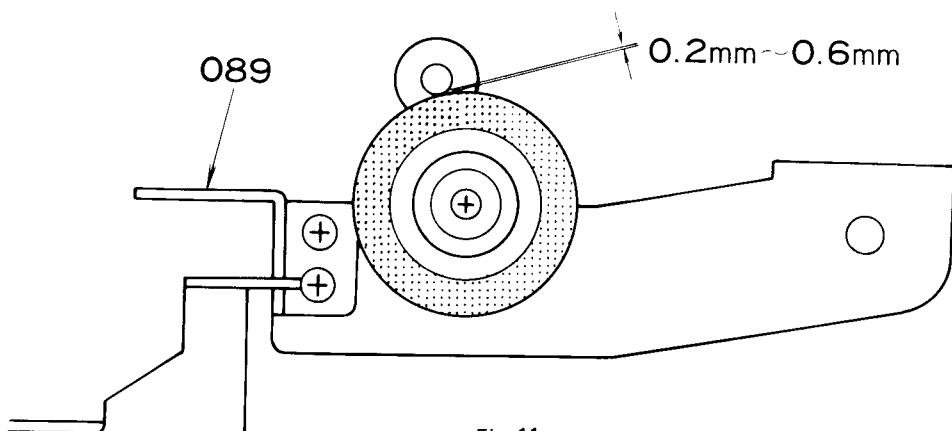

Fig. 11
* PAUSE MECHANISM ADJUSTMENT (Refer to Fig. 11)
- (1) Without power supply, shift the function selector knob (005) in playback position.
- (2) Pull in the pause button (007) to get the set in pause mode.
- (3) At the time, confirm that the distance between the capstan shaft and pinch roller is 0.2 – 0.6mm.
- (4) If the value is out of this range, adjust tape lifter/shifter (089) by pliers.
- (5) When it is lower than the normal value, move it in the arrow direction in Fig. 11. When it is higher, move it in the opposite direction.